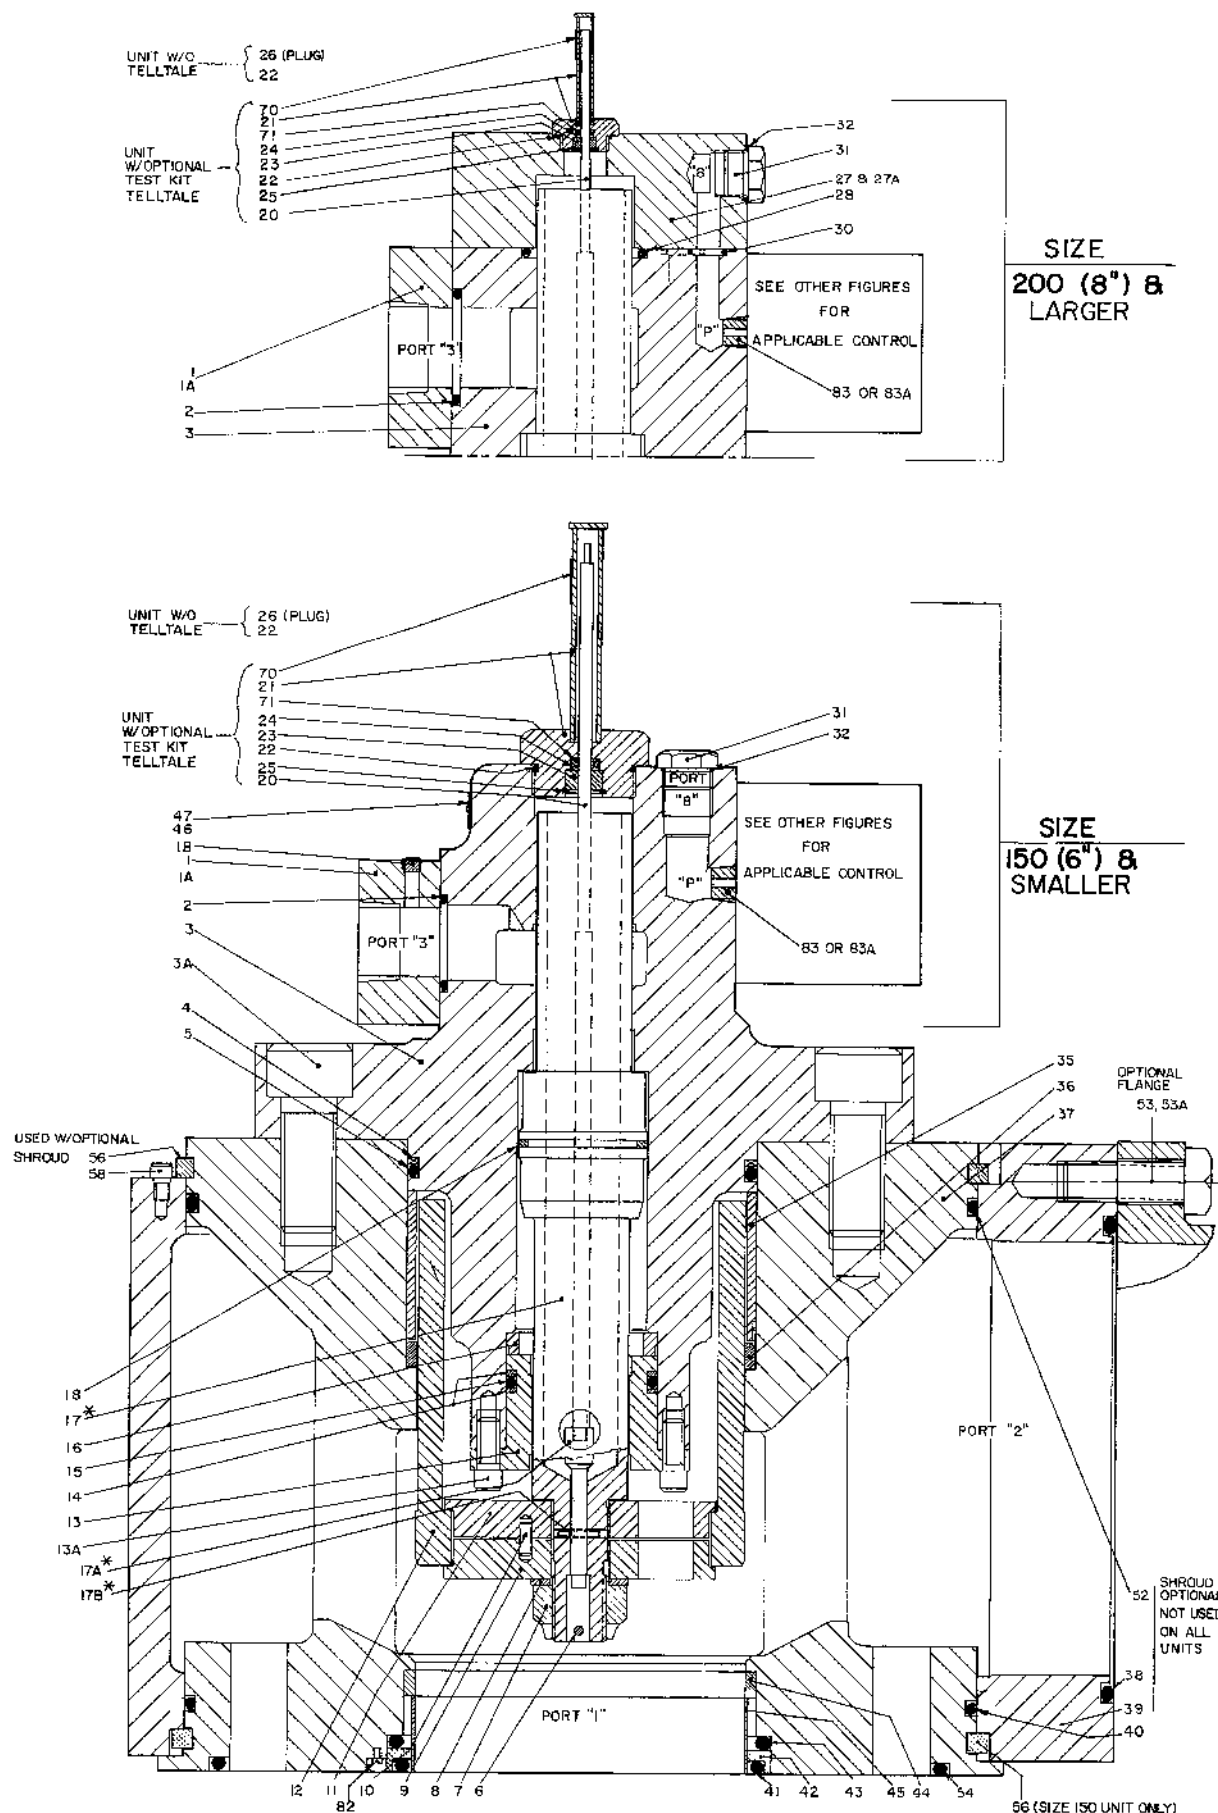

Figure 11. Parts Drawing, Type "VSA" 3-way Prefill valves (508280C sht. 1).
IX. ASSEMBLY (refer to Figures 11 thru 14).
For size 200 and larger. See Figure 11. Place o'rings (28 and 30) in place and then secure operator flange (27) to operator head with screws (27A).